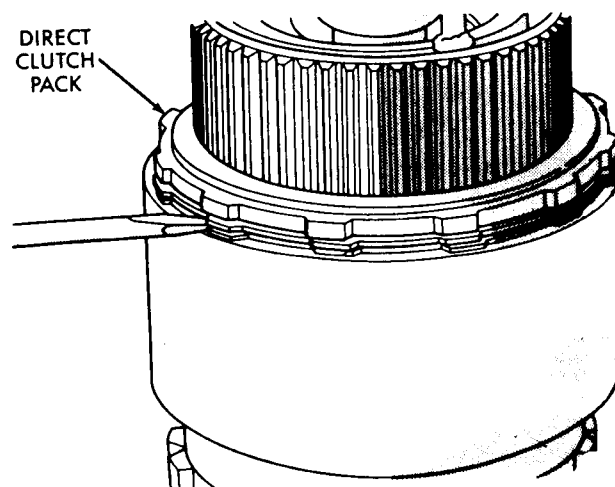
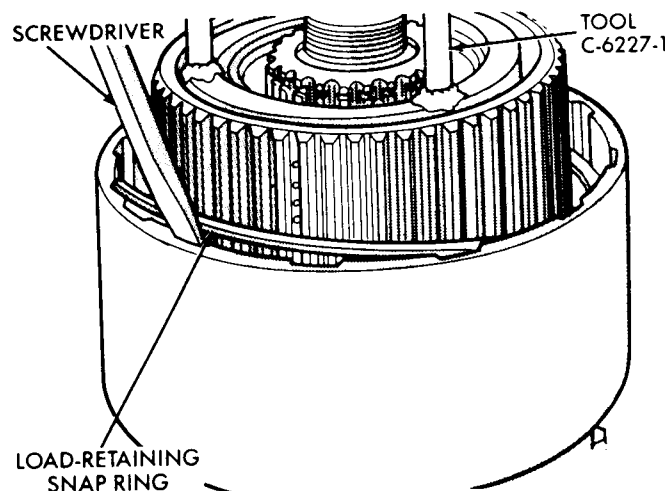
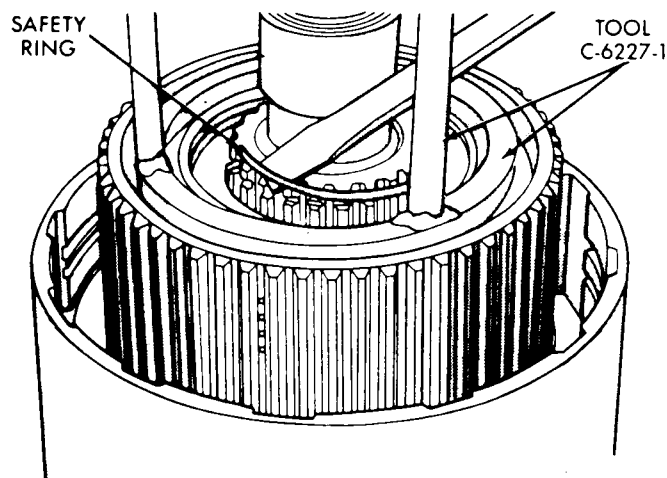

Fig. 6—Install Direct Clutch
Fig. 7—Install Load-Retaining Snap Ring
Fig. 8—Install Safety Ring
(5) Figures 6, 7, and 8 involves compressing the direct clutch spring with the arbor press. Set Tool C-6227-1 on the hub and compress the spring. Have a helper operate the press. As the spring is compressed, slide clutch plates into their grooves and down the hub (Fig. 6). Then install the large load-retaining snap ring, seating it firmly with a large screwdriver (Fig. 7). Install safety ring (Fig. 8). Slowly release the press, ensuring that the load-retaining rings are properly seated. Install governor and snap ring.